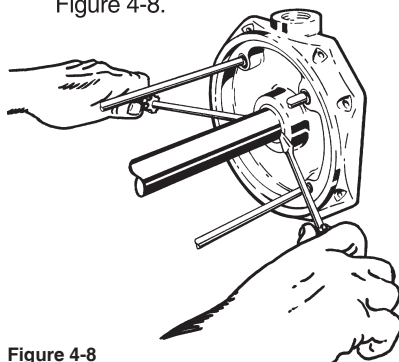

Figure 4-8
16. Remove the four (4) Guide Rods (#18). If the guide rods will not turn by hand, two of the Nuts (#20) can be jammed against each other on the guide rod and a wrench can then be used to loosen them.
18. Remove the Shaft (#17) and Inlet Cover (#1 or #1IN). The shaft is a keyed fit and is removed using two large screwdrivers. Refer to Figure 4-8.